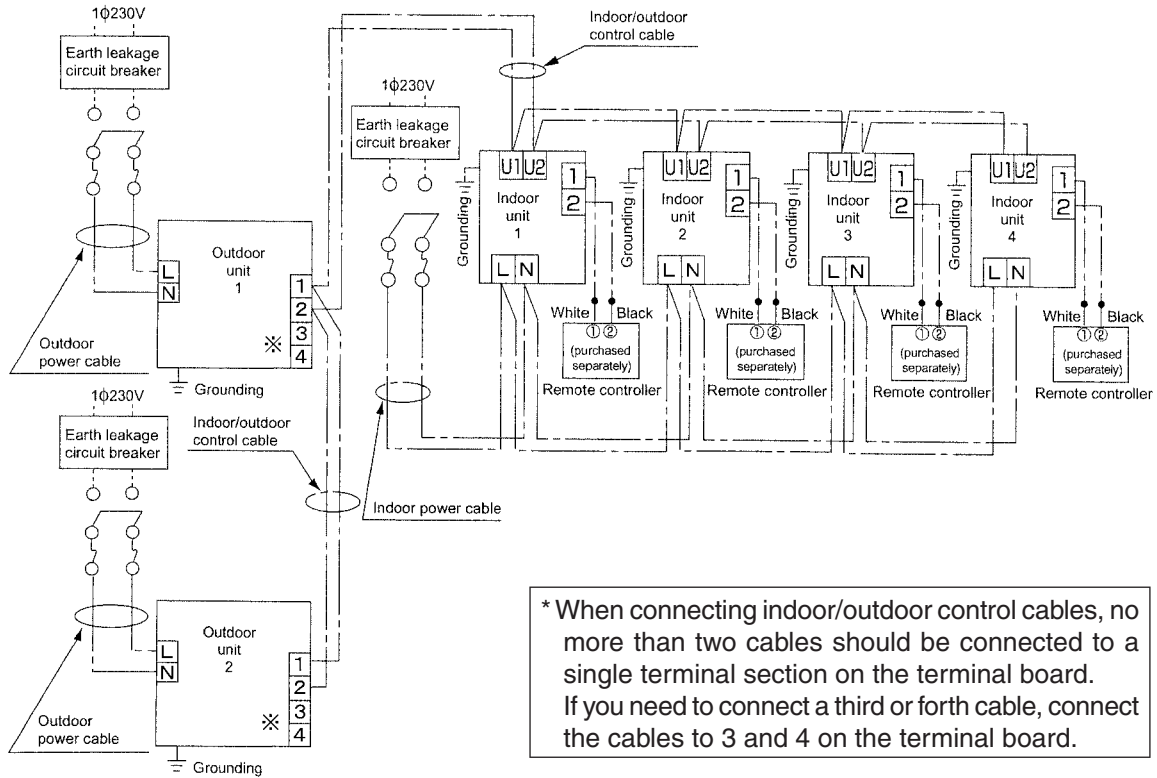

Fig. 1 Electrical Wiring System Diagram (2 WAY-Type)
(2) Electrical wiring system diagram
- For electrical wiring work, refer to the Electrical Wiring System Diagram (Fig. 1) and the electrical circuit diagram attached to the indoor unit. (2 WAY-type)